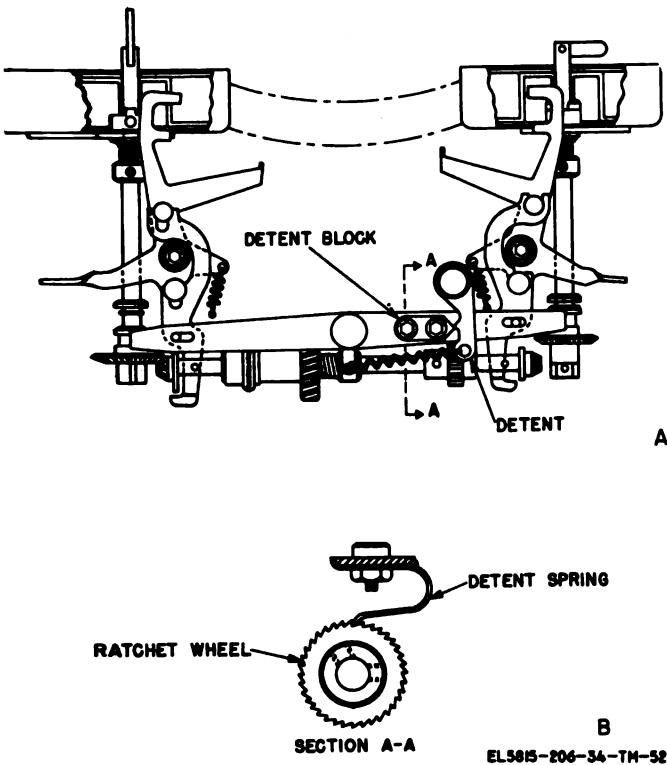

Figure 2-52. Ribbon feed mechanism (TT-4C/TG, TT-335/TG, TT-537/G and TT-698B/TG).
(3) On the TT-4C/TG, TT-335/TG, TT-537/G, TT-698B/TG the ribbon mechanism (fig. 2-52) is identical with that described in (1) and (2) above, except—